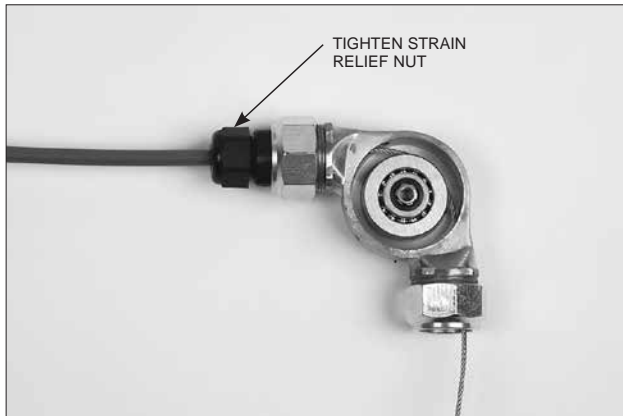

FIGURE 4-56
- Tighten the strain relief nut onto the strain relief. See Figure 4-56.